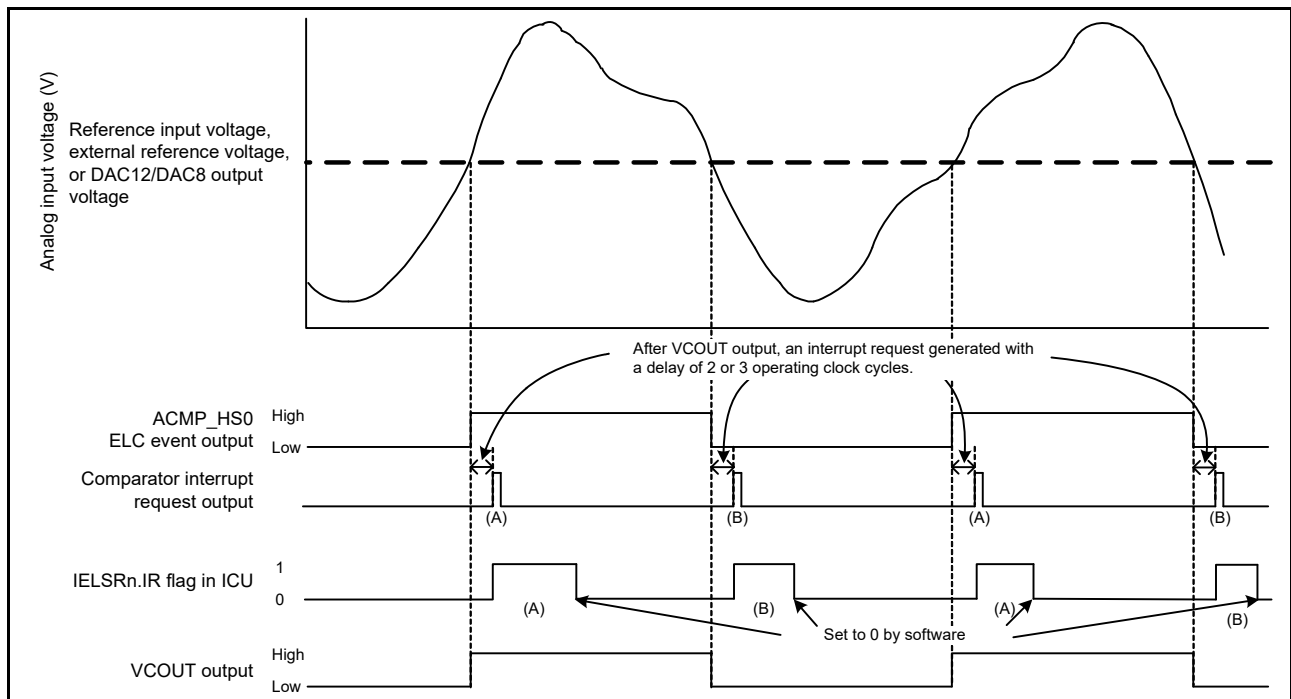

Figure 38.2 ACMPHS operation example
Figure 38.2 shows an example of ACMPHS operation. The V_{COU}T output becomes 1 when the analog input voltage is higher than the reference input voltage, and the V_{COU}T output becomes 0 when the analog input voltage is lower than the reference voltage. When the ACMPHS output changes, an interrupt request and an ELC event are output.
Figure 38.2 applies when CPOE = 1 (pin output enabled), CDFS[1:0] = 00b (filter not used), and CEG1 = CEG0 = 1 (both edge selection). When CINV = 0, CEG0 = 1, and CEG1 = 0 (rising edge selection for non-inversion output signal from the ACMPHS), the ICU.IELSRn.IR flag changes as shown by (A) only. When CINV = 0, CEG0 = 0, and CEG1 = 1 (falling edge selection for non-inversion output signal from the ACMPHS), the IR flag changes as shown by (B) only. When CPOE = 1, V_{COU}T directly outputs the ELC event output.